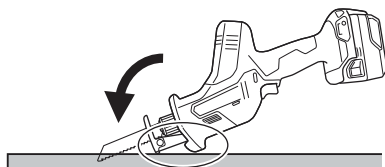

Fig. 26
- (2) Pull lightly on the trigger switch to maintain a low speed as you gradually saw into the material. (Fig. 26).